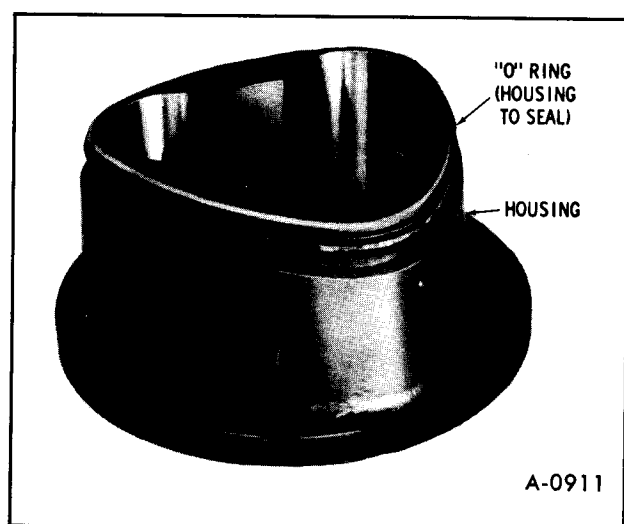

Figure 30—Installing "O" Ring on Housing
9. Install new "O" ring in outer groove in housing. (figure 30)